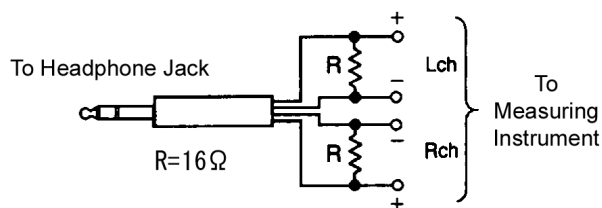

Fig. 9-4
2. Connect the voltmeter to the Headphones jack. (Fig. 9-4)